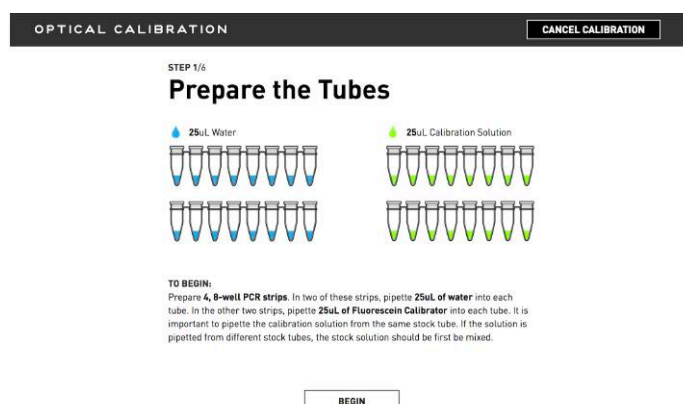

Figure 3.4
4. The screen will prompt you to prepare 4 new 8-well PCR tubes (Figure 3.4). Gather the previously prepared strip solutions and select **Begin**.